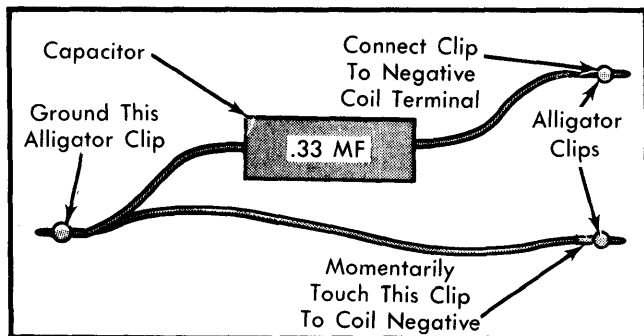

Fig. 7 Special Jumper Wire for Checking System Voltage
1) Remove coil secondary wire from distributor cap. Turn ignition switch "ON". Connect a special jumper wire momentarily from ignition coil negative terminal to ground, while holding secondary wire $\frac{1}{4}$ " from engine ground. See Fig. 7. A spark should jump to ground.